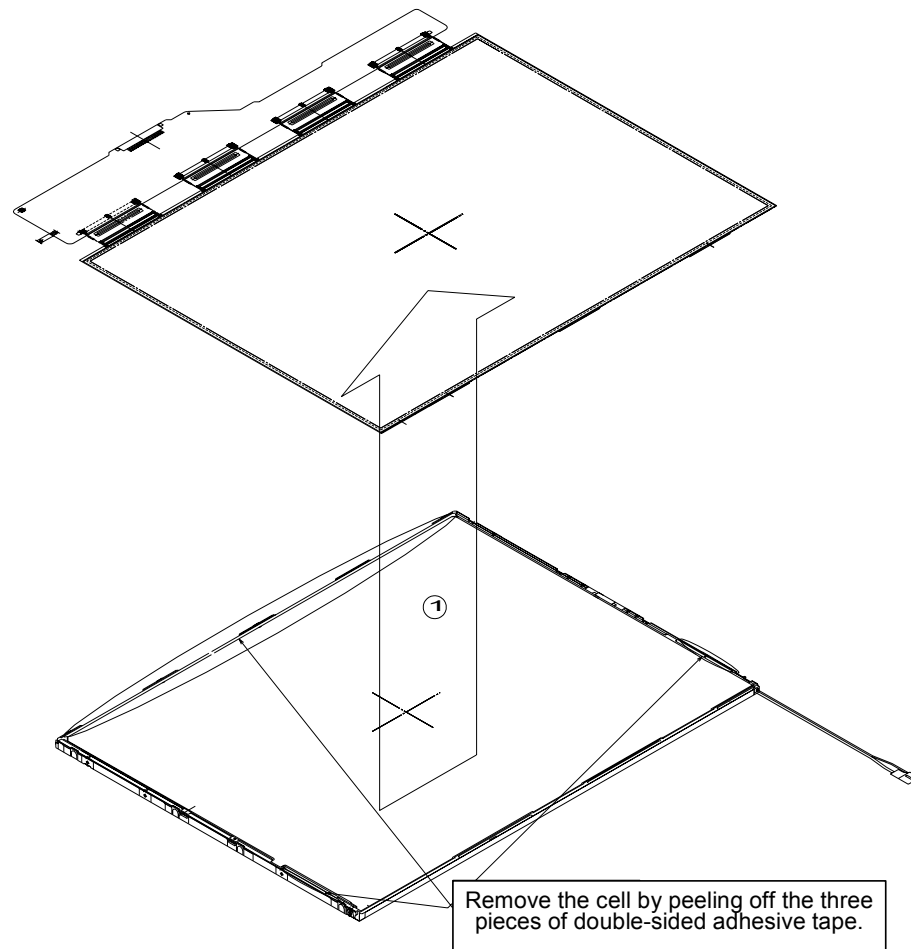

Figure 4-49 Replacing 14 Inch TMD fluorescent lamp (5)
1. Remove the cell of the PCB assembly from the backlight assembly, as indicated by (1) in Figure 4-49. Completely remove the double-sided tape remaining on the reverse side of the cell.
CAUTION: On the cell, three areas are bonded to the frame with the double-sided tape (as shown in Figure 4-49, one area is at the top, and two areas are at the bottom of both sides). Remove the cell gently, taking care not to damage it. Be careful not to peel off the masking tape in the three areas on the cell.